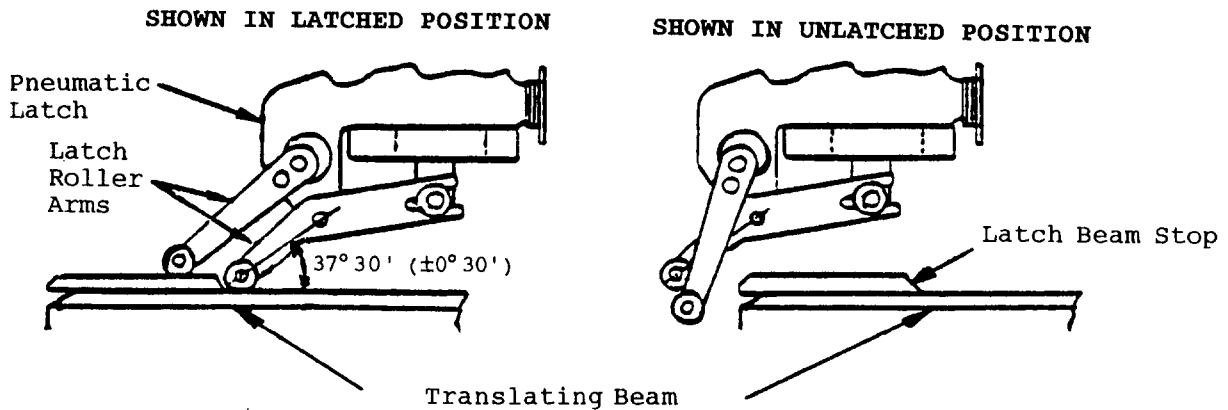

Figure 2 - Pneumatic Latch Positions
2. Operation. When the reverser is commanded to deploy, 28 vdc is sent to the latch control solenoid valve which opens and allows engine bleed air to both pneumatic latches. When the air pressure exceeds 5( $\pm$ 1) psig the spring force is overcome and the piston strokes downward toward the translating beam. This causes the latching lever to pivot upward away from the beam latch stop allowing the rollers to move on top of the retaining lever rollers which can now move aft to retain the latching lever in the unlatched position (see Figure 2). The translating beams now are free to move aft to full deploy. When stow is selected, power is removed from the latch control solenoid valve which now vents the engine bleed air from the top of the pistons. However, the pneumatic latches are retained in the unlatched position until the translating beams move forward to stow and trip the retaining levers. This releases the latch levers and the spring forces the pistons up, to move the latch levers down behind the beam latch stops, locking the reversers in stow.